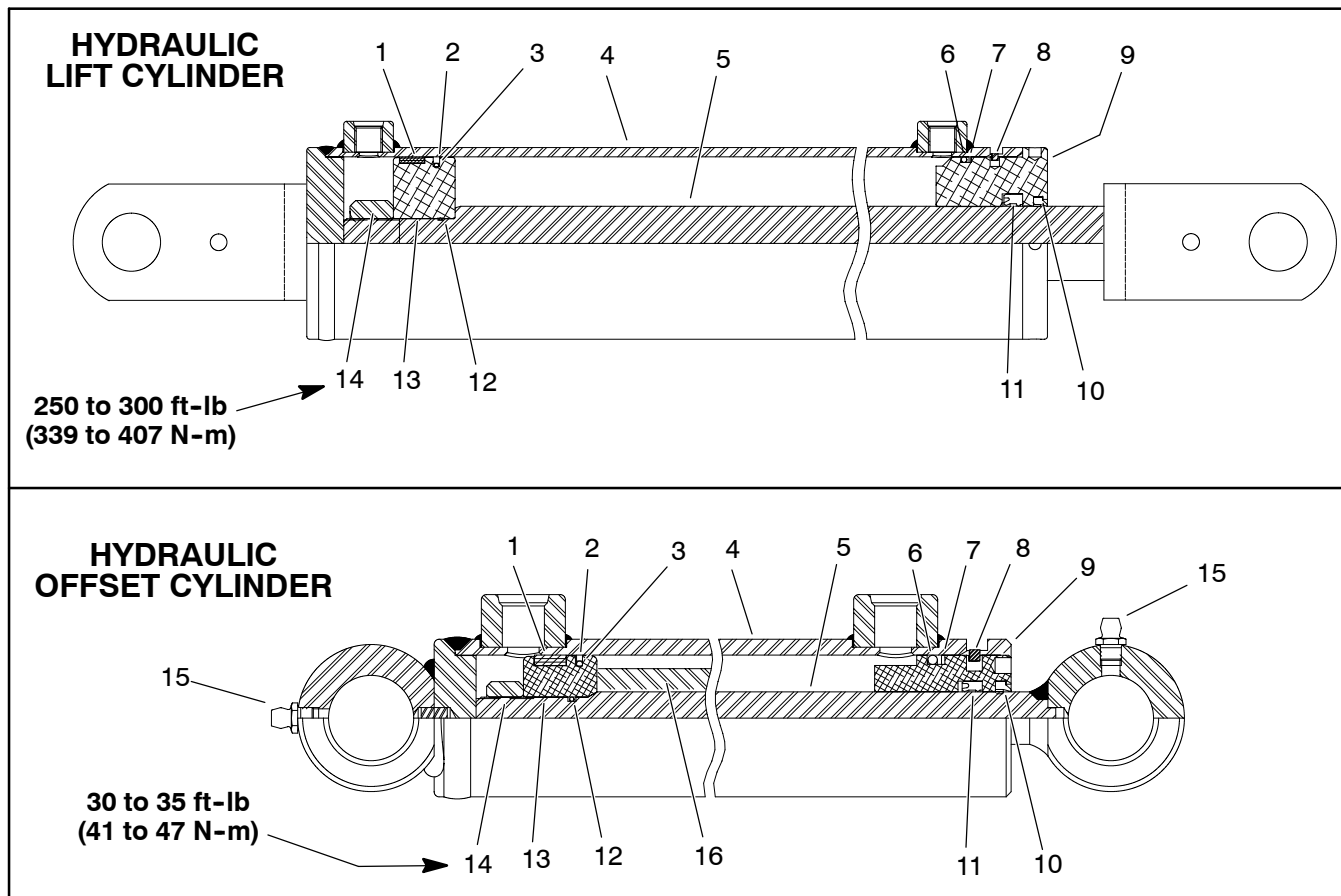

Figure 22
### Disassembly (Fig. 22)
### Assembly (Fig. 22)
2. Install backup ring (item 7), O-ring (item 6), seal (item 11) and wiper (item 10) to the head.
3. Install O-rings (items 3 and 12), seal (item 2) and wear ring (item 1) to piston.
4. Mount rod securely in a vise by clamping vise on the pivot end of the shaft. On offset cylinder, slide spacer (item 16) onto rod. Carefully slide head assembly and piston assembly onto the rod.
5. Thread lock nut (item 14) onto rod. Torque lock nut to value shown in Figure 22.
9. Secure head in tube by installing retaining ring (item 8):